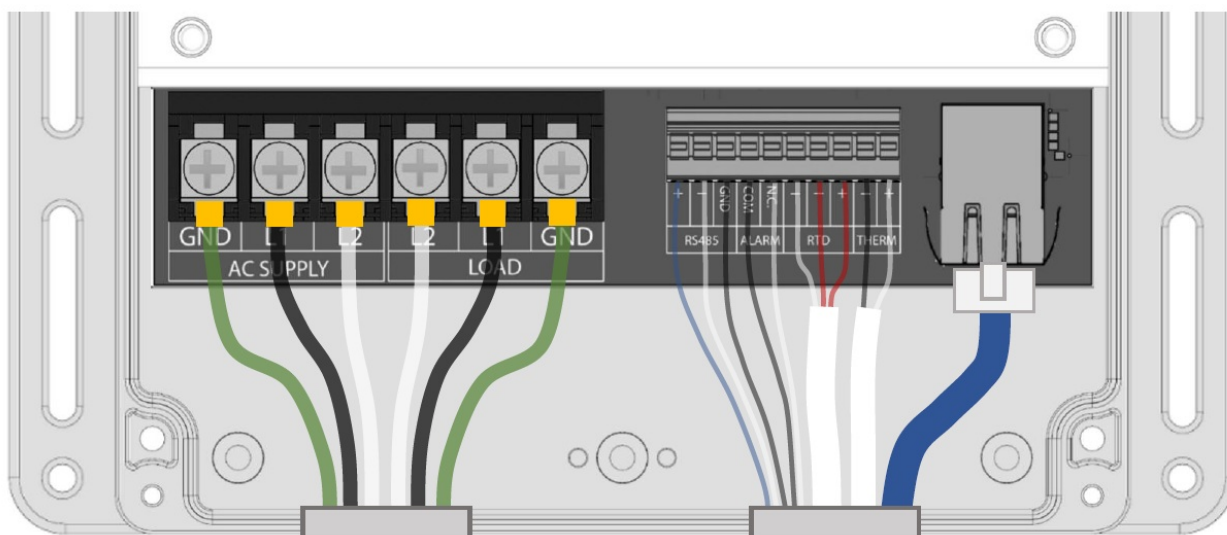

Figure 3: Top view of the Frio S1 controller with the wiring cover removed, showing all possible wiring connections.
2. Connect low voltage sensor and communications wires according to the image in Figure 3.
3. Connect heat trace leads as shown in Figure 3. The ground sheath of the heat trace must be connected to the ground terminal on the controller.
4. Connect the power leads as shown in Figure 3. The ground connection on the controller must be properly connected to ground in accordance with local and national electrical codes.